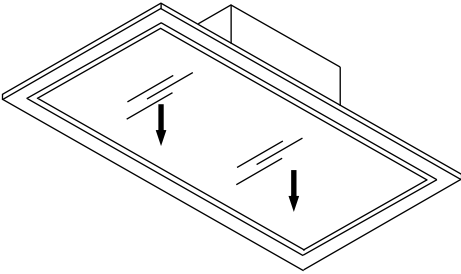

Fig 3
1. Pull down at each side of the glass cover to open (Fig 3).